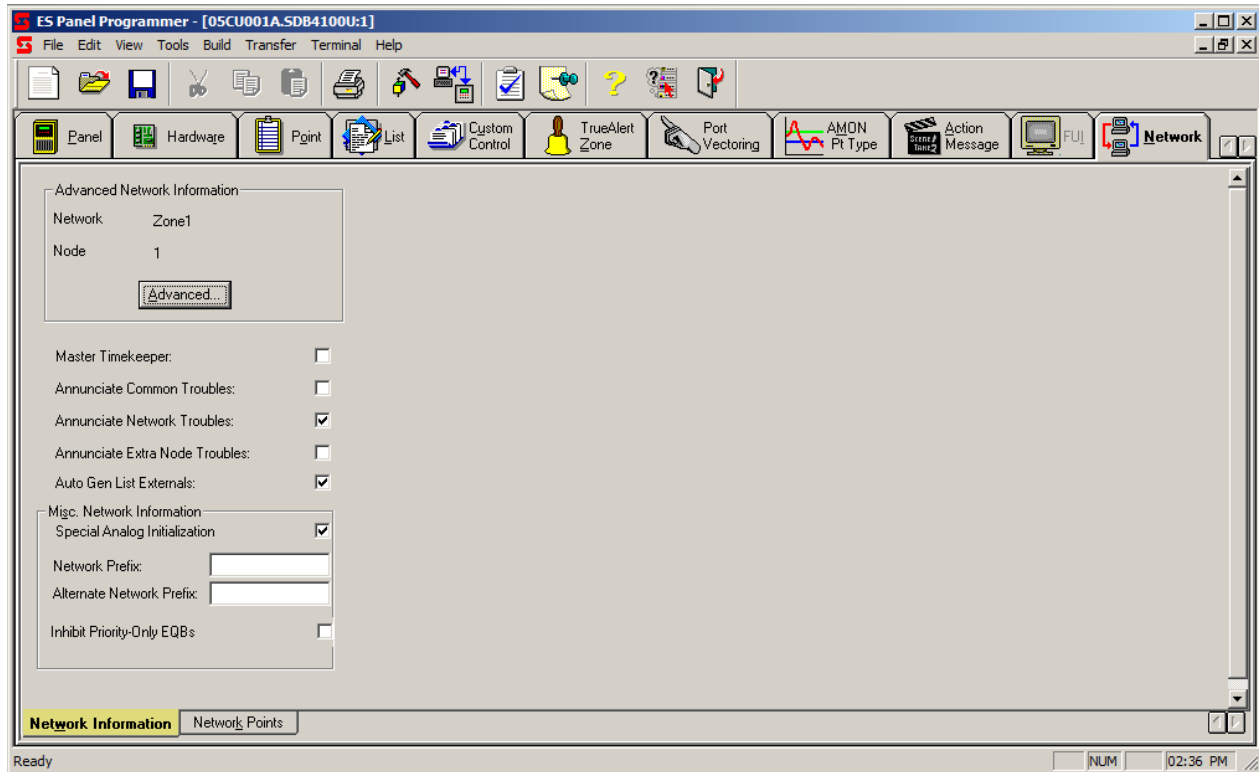

Figure 13-2. Network Tab, Showing Network Information
1. Click on the Network tab, shown in the upper right corner of Figure 13-2.